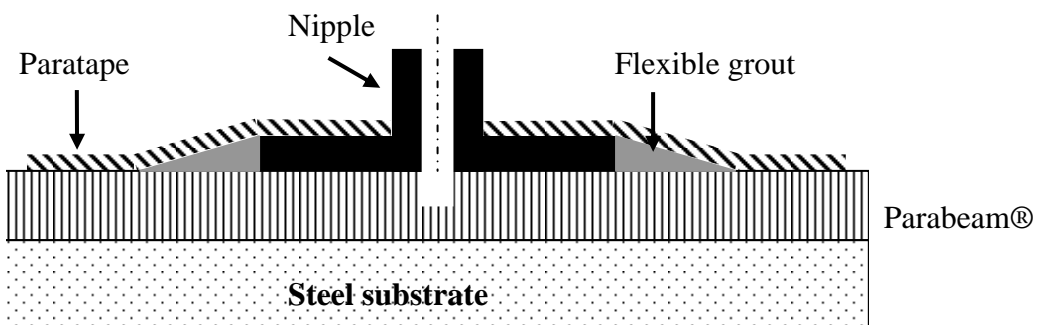
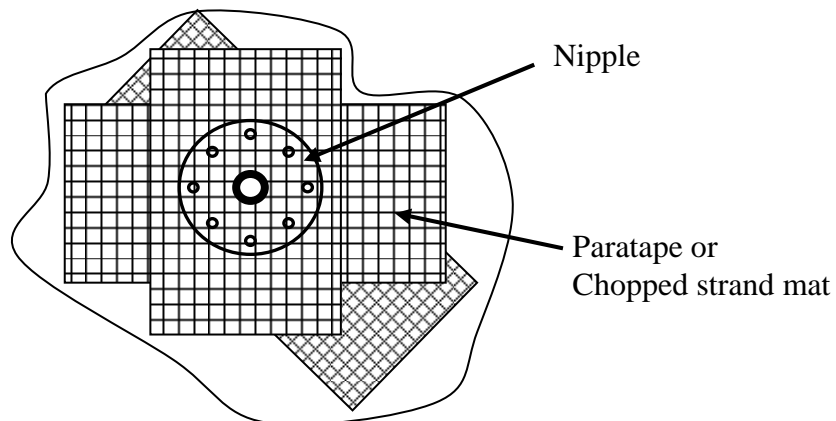

Figure 16
Figure 17
2. Drill a hole in the top face of the Parabeam® and laminate a nipple on it. Connect it with a tube and lead it through the cargo to the outside tank wall (figure 16), To fasten the nipple tightly apply 3 layers of CSM over the nipple and 70 mm around it as shown in figure 17.